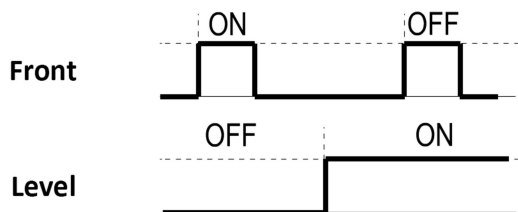

Fig.4. Logic of control signals START/STOP and DIR – processing as per a front or as per a level of the signal
Setting the external "DIR" signal is similar to the "START/STOP" signal. The OFF position of the DIP2 microswitch determines the processing of the DIR signal by a front, the ON position – by a level (see fig. 4).
7. Set the logic of the "START" and "DIR" signals using microswitches DIP1 and DIP2 (switch group SW3) in accordance with Fig. 4.